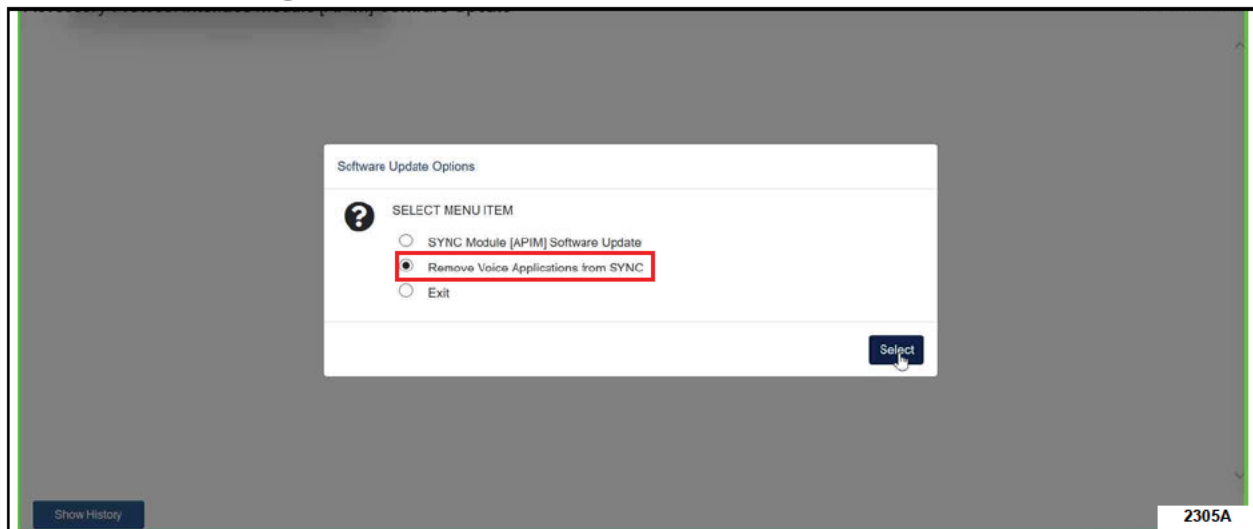

FIGURE 1
24. When prompted for Software Update Option, click "**Remove Voice Application from SYNC**", then click **Select**. See Figure 1.